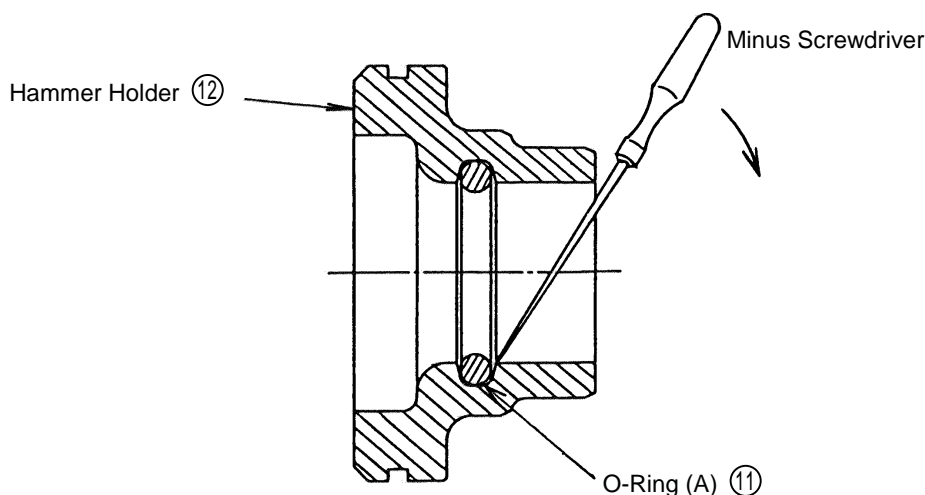

Fig. 10
(4) Removal of O-Ring (A) (11):
As O-Ring (A) (11) is installed in the inner portion of the Hammer Holder (12), it may be difficult to remove. As illustrated in Fig. 10, pry O-Ring (A) upward gently with a small minus screwdriver, being very careful not to damage the surface of the O-Ring.